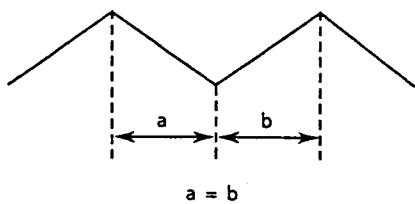

Fig. 4-23
- Adjust VR18 so that the pulse duty becomes 50% (The duty a and b become equal) (Fig. 4-23)